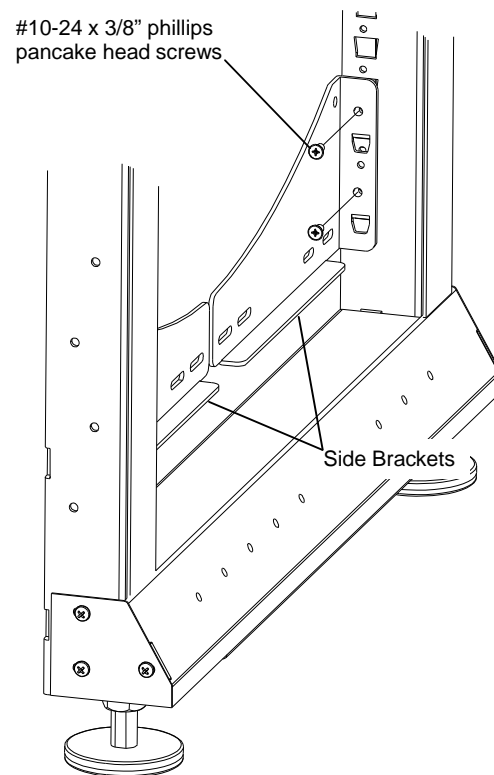

Figure 4
4. Lock each Bracket in place using two #10-24 x 3/8" phillips pancake head screws (provided). See figure 4.